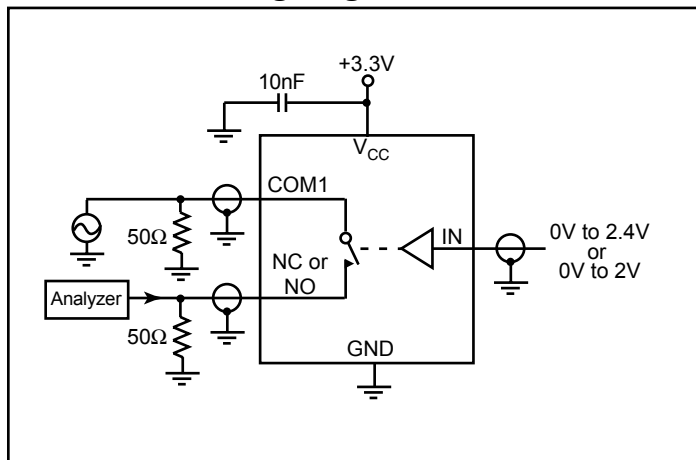

Figure 4. Off Isolation
- Off Isolation = $20\log_{10} [V_{COM} / (V_{NO} \text{ or } V_{NC})]$. See Figure 4